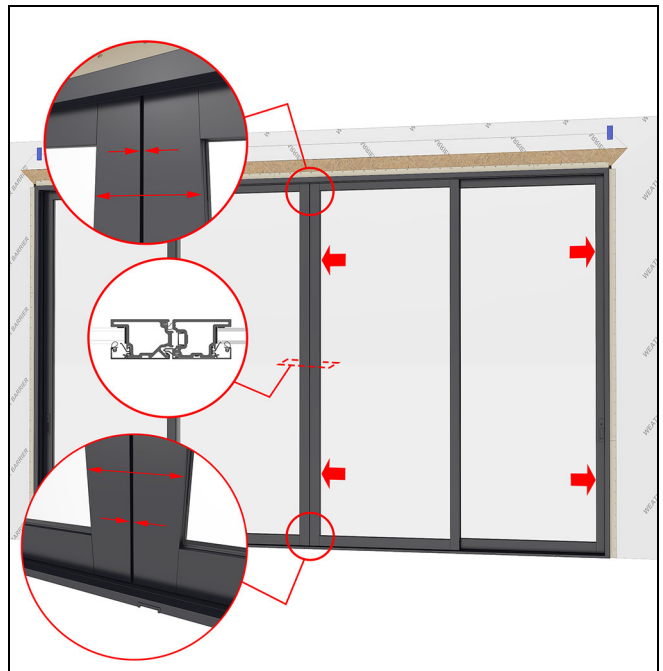

Figure 171
12. Close and lock the second operator panel. Check all reveals and adjust as necessary. See Figure 171.